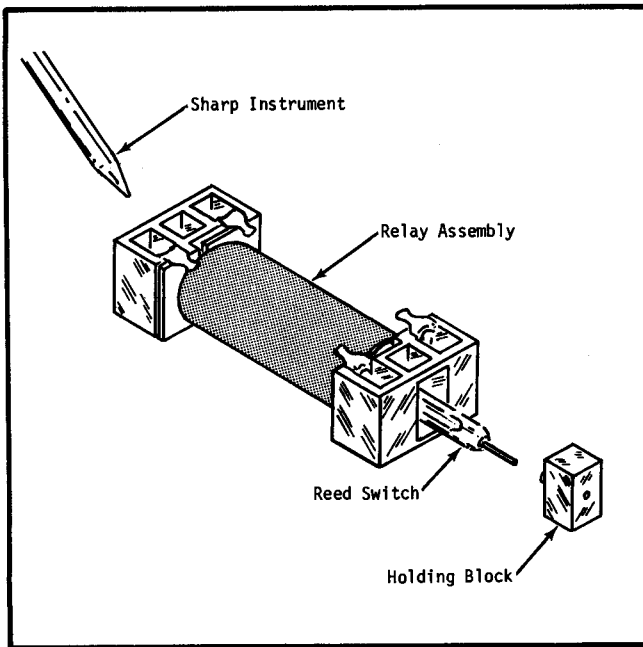

Fig. 5-6. Removal of Reed Switch.
- b. Using a toothpick or sharp instrument, push the reed switch out either end of the coil. The reed and holding block will slide out of the other end. (See Fig. 5-6.)